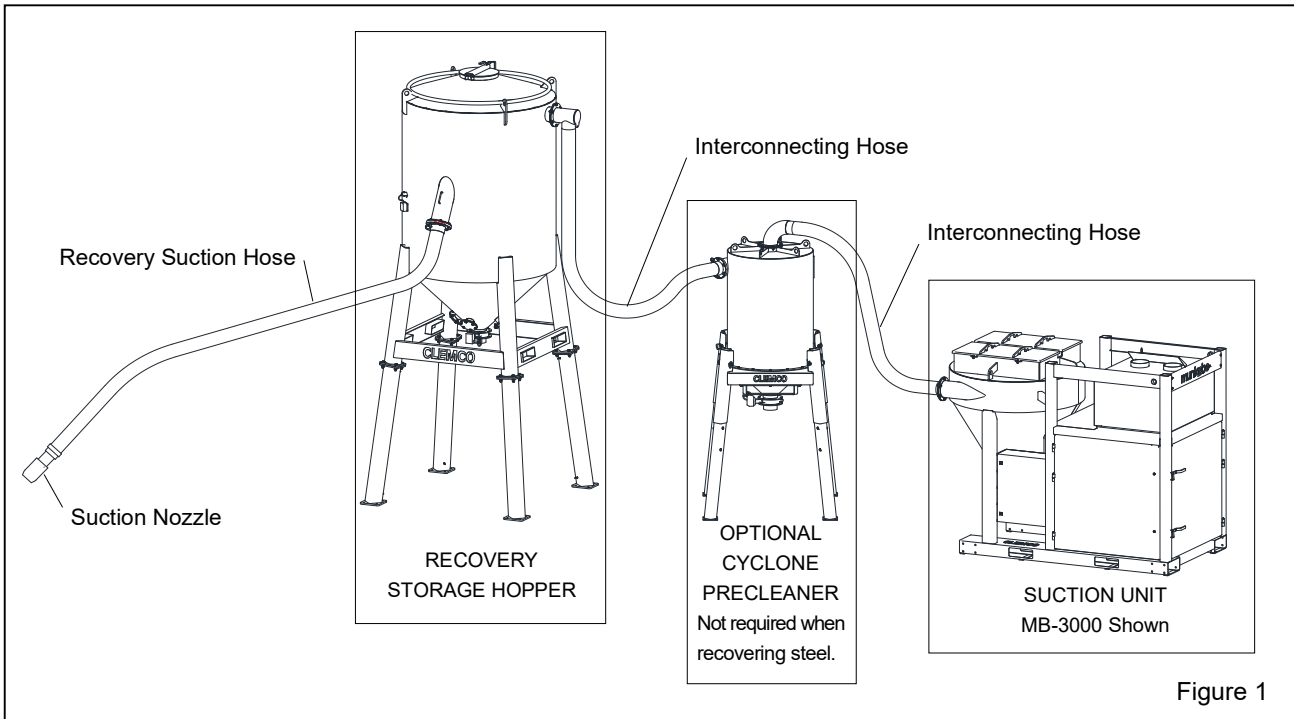

Figure 1
1.4 Components – Figure 1
1.4.1 The primary components of the vacuum system are shown in Figure 1. The system includes the suction unit, recovery storage hopper, recovery suction hose, suction nozzle, and interconnecting hose(s). Models used to recover spent, friable abrasive should also include an optional cyclone precleaner.